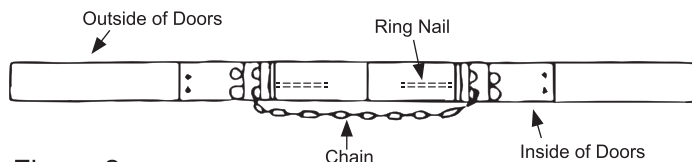

Figure 2
4. To latch the two doors together, merely hook the "S" hook onto the rod assembled to the opposite door (Fig 2). The more the door rattles, the tighter the latch becomes. After making certain that the "S" hook is in the proper link (attached chain should be about 3-1/2" from top of cross member), close the hook slightly so it won't become detached from chain.